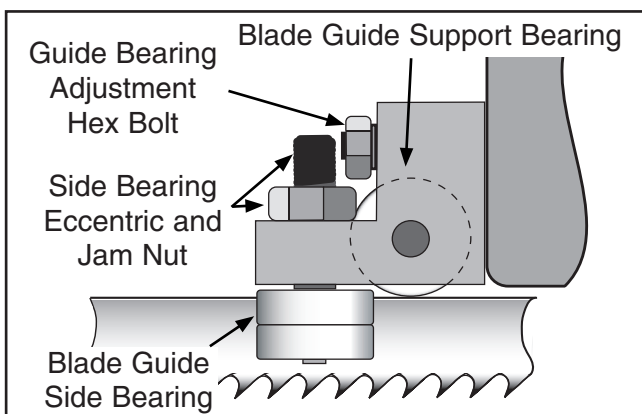

Figure 24. Blade guide adjustment locations.
The blade guide side bearings support and twist the blade straight so the blade will enter the workpiece perpendicular to the table surface. The blade guide support bearings prevent blade twist by stopping the blade from being pushed back during a cut. Both adjustments are critical for correct saw operation (see **Figure 24**).
4. Adjust the blade guide housing so the support bearing rests against the rear of the blade (see **Figure 24**).